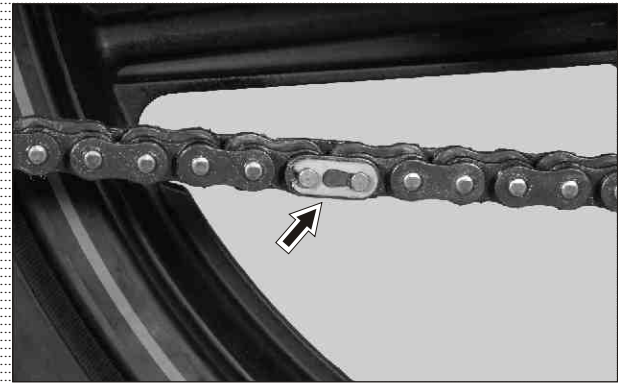

Fig. 2.99
- Unlock link set of chain assembly drive and remove it. (Fig. 2.99)